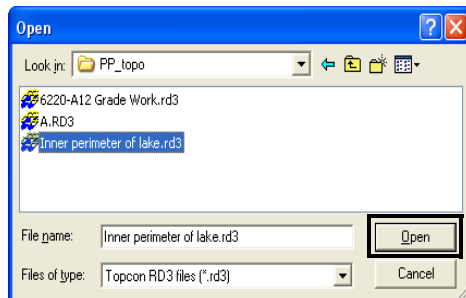

Figure 6-8. Import 3D Alignment File
2. On the **Open** dialog box, navigate to the location of the desired file, select it, and click **Open** (Figure 6-8). The alignment from the selected file is added to the 3D Project file.